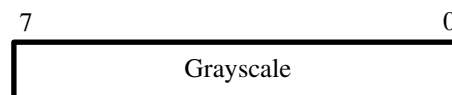

Figure 16. 8-bit Grayscale RGB Color Space.
- 1-Bit Black/White — This is a special case of the RGB color space where only two colors can be represented, black (0) and white (1). This mode is defined as 1 bit per color and one color plane.
- 8-Bit Grayscale — This is a special case of the RGB color space where three colors have the same intensity and therefore produces shades of gray. Figure 16 shows the format of the 8-bit Grayscale data. This format is equivalent to YCrCb 4:0:0 color space. This mode is defined as 8 bits per color and one color plane.